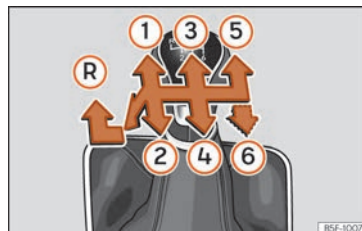

Fig. 214 Gear shift pattern of a 5 or 6-speed manual gearbox.
The position of the gears is indicated on the gearbox lever » **Fig. 214**.
» Fig. 214 (R).